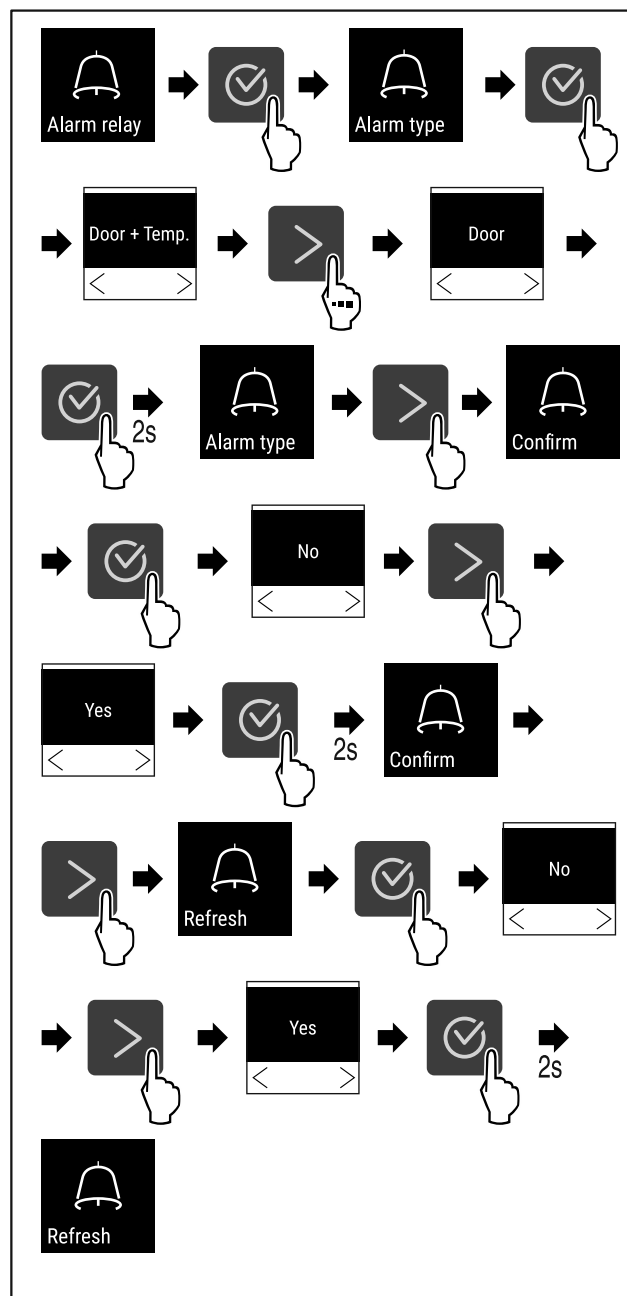

Fig. 145
- ▶ Complete steps (see Fig. 145).